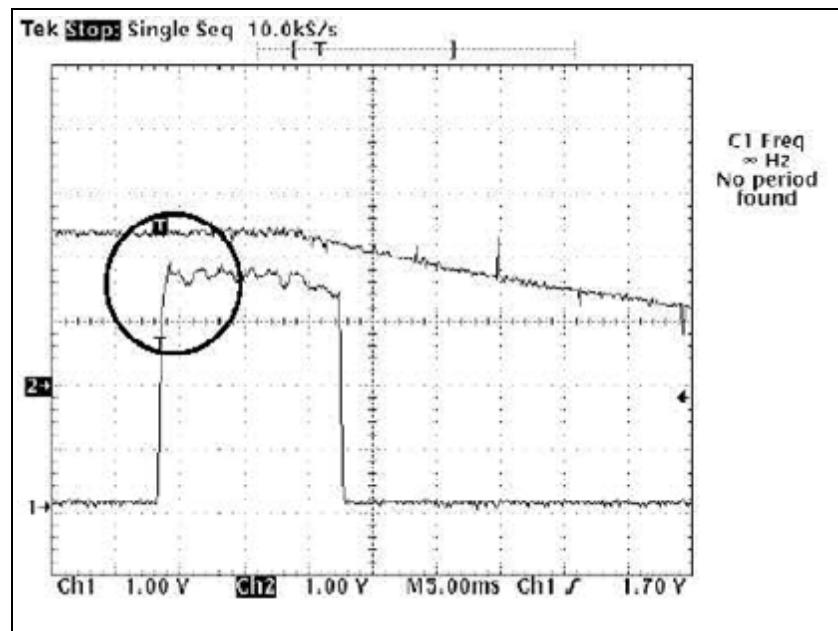

Fig. 15: Filament current ok
- ⇒ See example (Fig. 15 / p. 31).